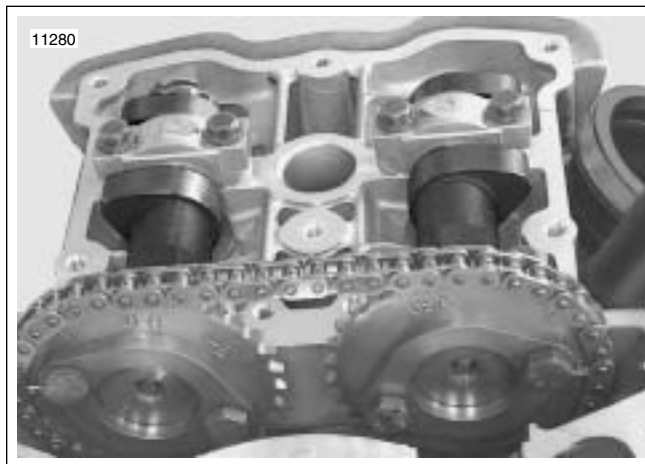

Figure 1-74. Front Cylinder Cam Lobe Position
23. Using CRANKSHAFT ROTATING WRENCH (HD-45314) rotate the engine toward front cylinder (direction of operation) until nose of camshaft intake and exhaust are at the 2 o'clock and 10 o'clock position as shown in Figure 1-74.
- a. When adjusting the front cylinder the cam lobes will be at the base circle position on the tappet as shown in Figure 1-74.